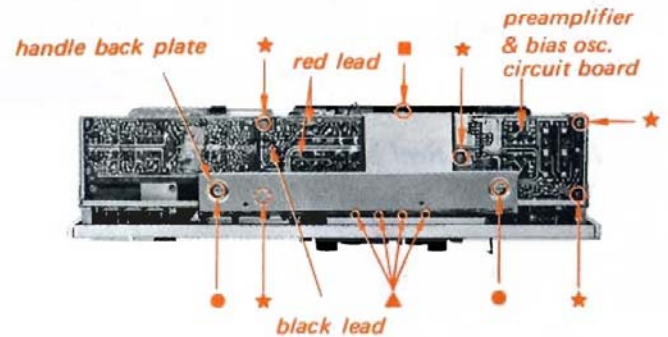

Fig. 8-7 Preampifier & bias osc. circuit board removal
- (1) Remove the handle back plate by unscrewing the two screws marked with ● in Fig. 8-7.
- (2) Remove the shield plate by unscrewing a screw marked with ■ in Fig. 8-7.
- (3) Remove the four variable resistor fixing nuts marked with ▲ in Fig. 8-7 by using a pliers.
- (4) Unsolder three leads (one black and two red) on the conductor side of the preampifier & bias osc. circuit board.
- (5) Remove the five preampifier circuit board holding screws marked with ★ in Fig. 8-7.
- (6) Remove the preampifier & bias osc. circuit board gently from the chassis taking care not to cut the leads.